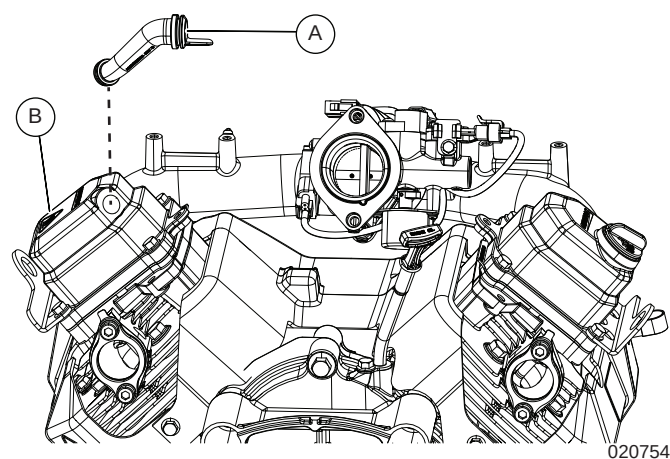

Figure 6-11. Remove Breather Hose
See Figure 6-11. Gently remove breather hose (A) from rocker cover (B) facing the blower side of engine. Take extra care in removal to not damage hose.